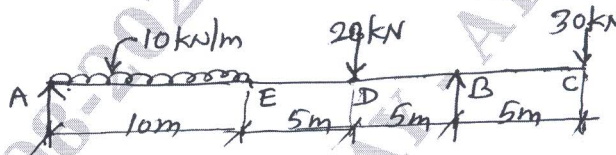

Fig.Q.5(b)
- b. A beam 25m long is supported at A & B and is loaded as shown in Fig.Q.5(b). Draw the SFD & BMD for the beam computing SF & BM at A, E, D, B & C. find the position and magnitude of the max. bending moment. Also, determine the point of contra flexure. (15 Marks)